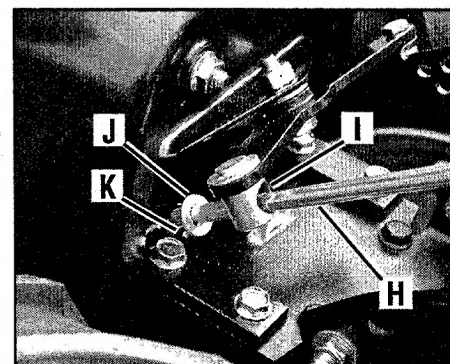

Figure 2-6: Install Reverse Clutch Lever.
2. Insert the end of the lever (H, Figure 2-6) through the hole in the pivot (I). Note there are two small holes in the lower end of the lever.
3. Install a 5/16" flat washer (J) and secure it with a 5/8" long straight cotter pin (K) through the bottom hole in the lever. Spread the legs of the straight cotter pin apart and bend them over to prevent the pin from coming loose. NOTE: The straight cotter pin is shown as item #14 on page 6.